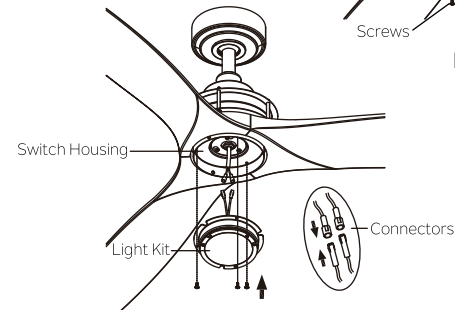

Fig. 26
Step 6. Hold the light kit close to the switch housing and connect the WHITE wires from the light kit and fan by pushing the connectors together. Follow the same procedure with the BLACK wires. (Fig. 26)
Step 7. Tuck the connections neatly into the light kit. Align three round holes on the light kit and switch housing. Securely tighten with 3 screws removed on step 5. (Fig. 26)